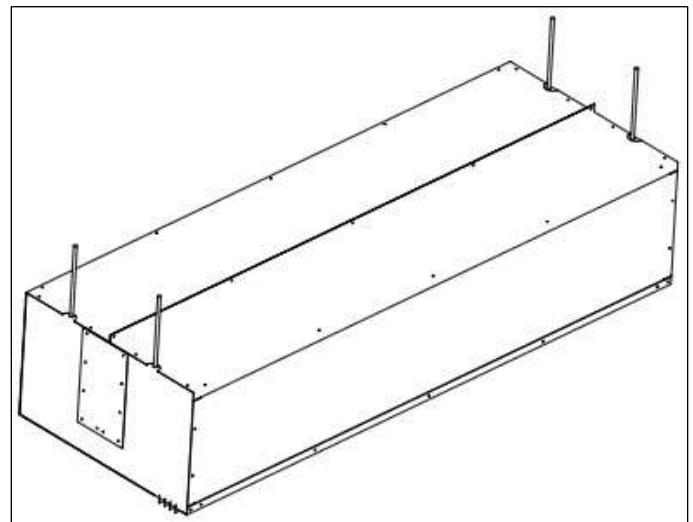

FIG. 2
4. All units are equipped with (4) 3/8" threaded inserts on top for overhead installation (FIG. 2)
5. Determine the exact mounting locations to suspend the unit above the ceiling so that the unit is centered and parallel with the door opening. Use (4) threaded rods to suspend the enclosure to the ceiling.
7. If applicable, for tandem installation (units longer than 72") of products mounted side by side, allow no more than 6" between the two units. Note that (4) sets of threaded rods are used to suspend each unit to the ceiling or center mounting brackets are to be used for joining and top mounting tandem units.